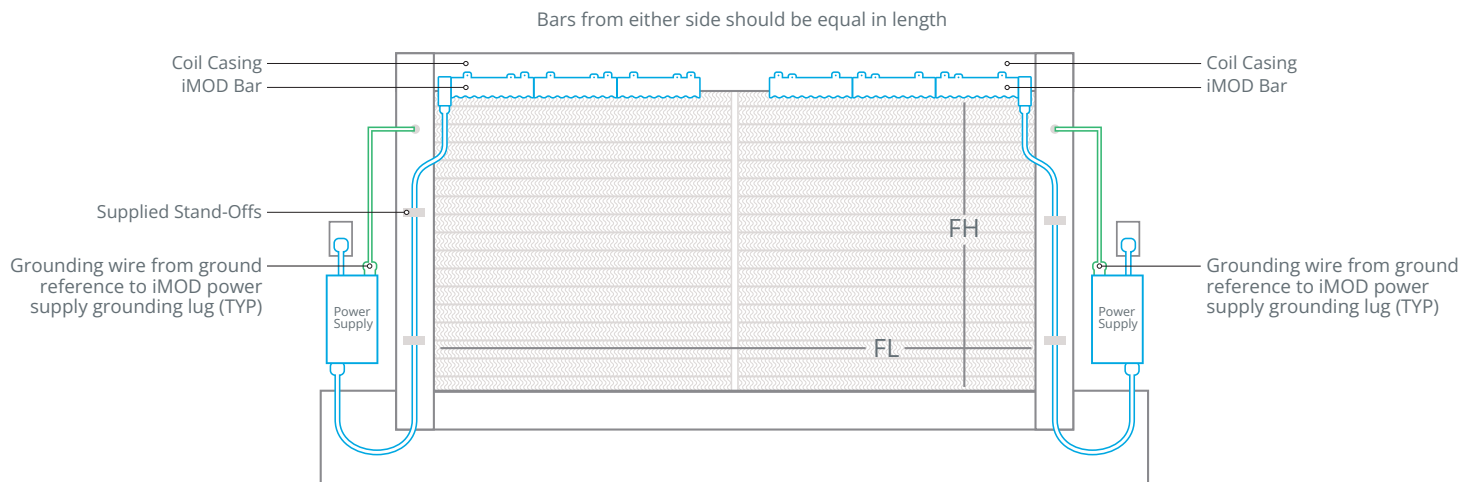

Figure 4.
- If the cooling coil finned length (FL) exceeds 12', a second iMOD bar should be mounted on the coil with an additional power supply mounted on the opposite side of the unit. Both bars should be equal in length to the nearest 6" module. The ends of the two bars should point to each other. See Figure 4 for reference.
- When applied to a coil, the GPS-iMOD bar can cover a maximum of 60" vertical coil height; for cooling coil finned height (FH) greater than 60", a second iMOD bar should be utilized with vertical coverage being equal.